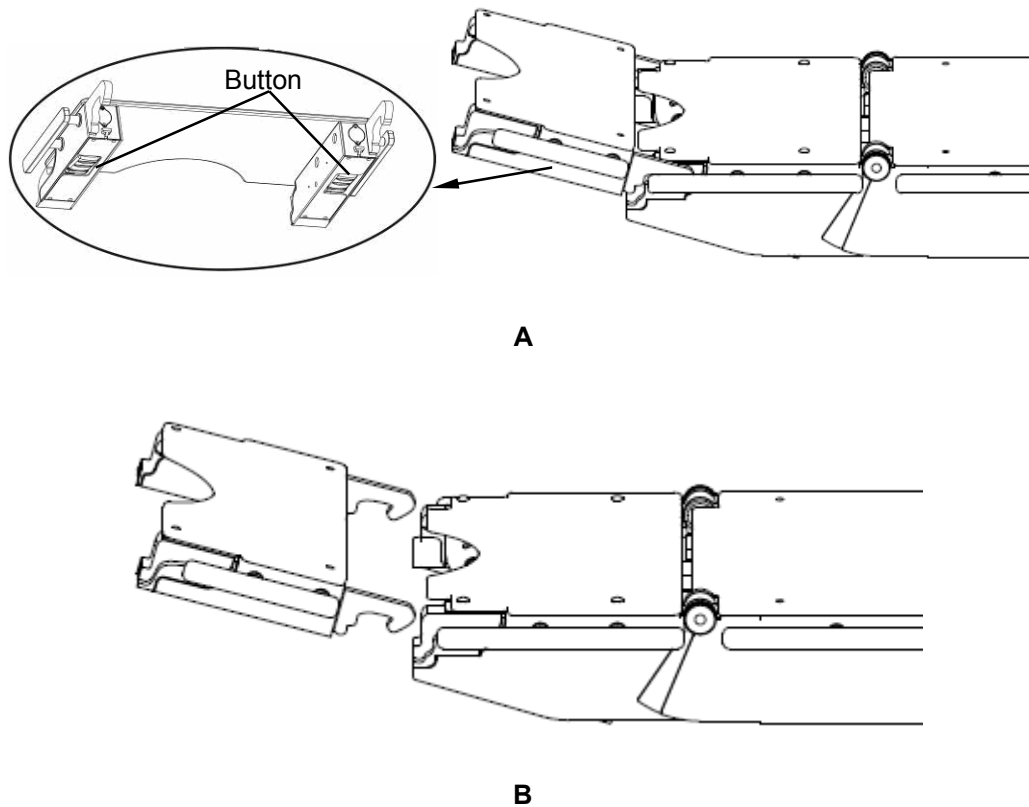

Figure 2-38 Removing the extension plate
2. As Figure 2-38 shows, lift the extension plate and pull it out.